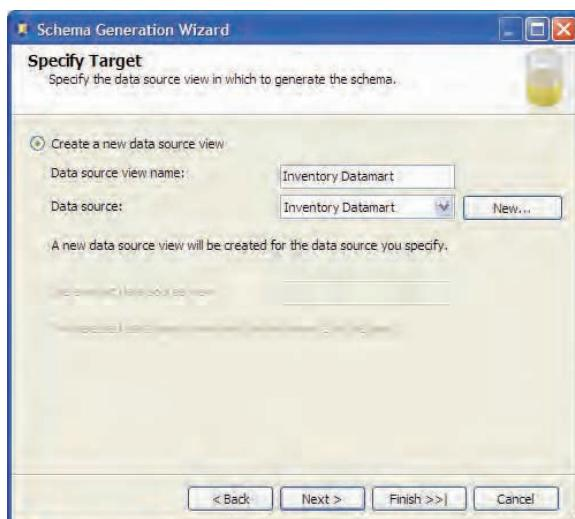

Figure 6.10 The Schema Generation Wizard generates the relational schema of the subject area database.
1. Open the Inventory cube in the Cube Designer and click on the *Click here to generate data source view* link shown in the Data Source View pane to launch the Schema Generation Wizard. Click Next to advance to the Specify Target step (Figure 6.10).